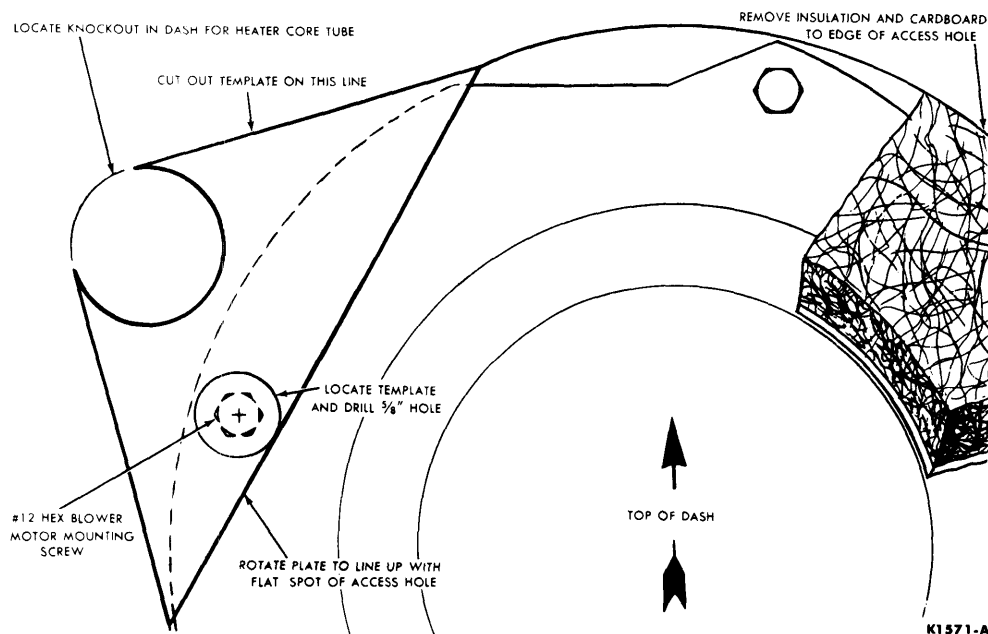

FIG. 15—Air Conditioner Blower Motor Accessibility
4. Remove (cut) the insulation from around the motor (Fig. 15).
5. Using a template (Fig. 15) drill one $\frac{5}{8}$ inch hole to gain access to one screw which retains the motor and plate to the heater-air conditioner assembly. (Ninety degree drill motor required for this.)